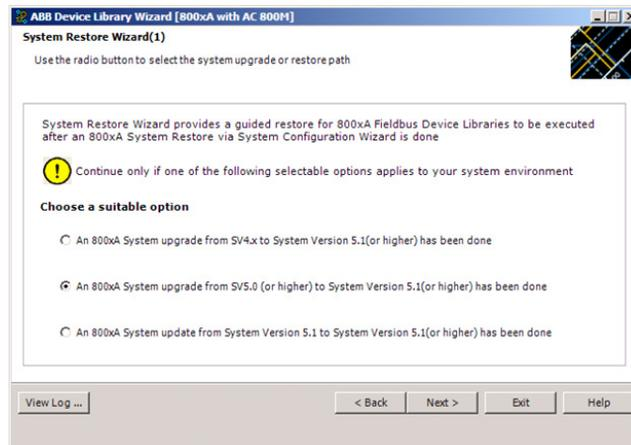

Figure 25. System Restore Wizard (1)
- Choose the second option in the System Restore Wizard as shown in Figure 25 and click **Next**.